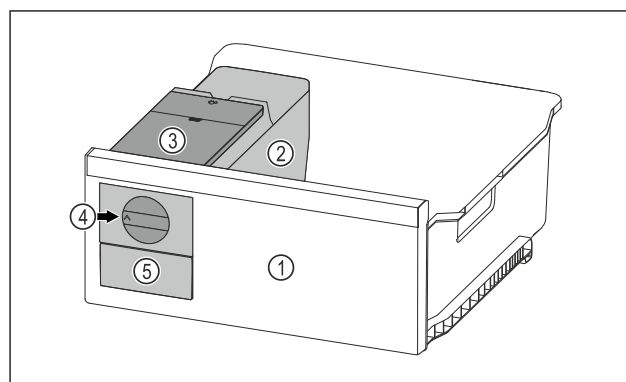

Fig. 120 Example illustration
- Turn the rotary knob Fig. 120 (4) clockwise as far as it will go.
- Ice cubes fall from the ice cube tray into the ice cube drawer Fig. 120 (5).